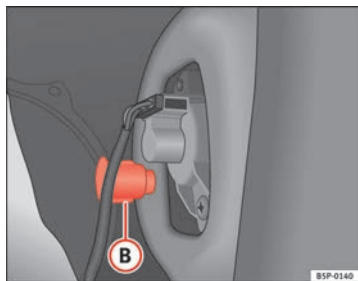

Fig. 192 Side lights and brake lights
- Unscrew the plastic fitting ⇒ fig. 192 **B** securing the tail light. Inserting a screwdriver under the plastic fitting may help to loosen it.